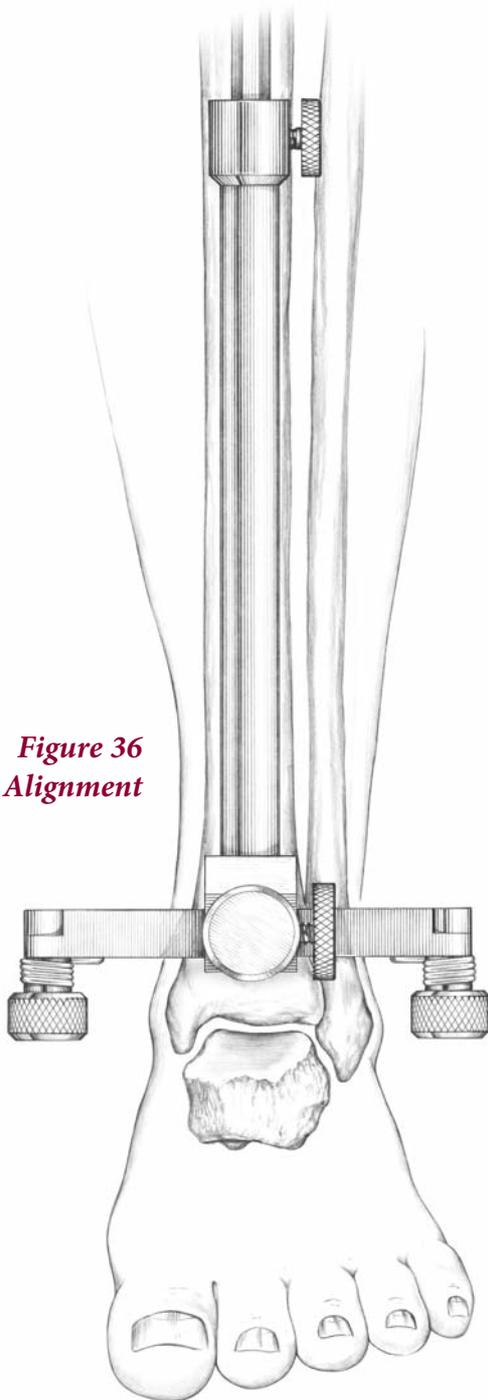

Figure 36
2. Second Metatarsal - The second metatarsal generally is in line with the center of the ankle (**Figure 36**).